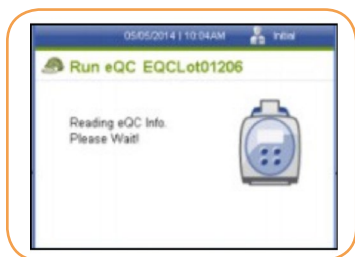

FIGURE 111
- Close the drawer. The reader will automatically start the EQC testing (Figure 111).